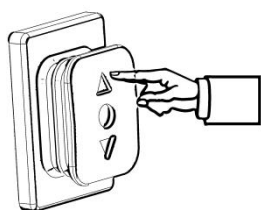

Figure D1
4.1 Press and hold the line control switch to open the awning. The motor will automatically stop when the awning is fully open. (Figure D1)